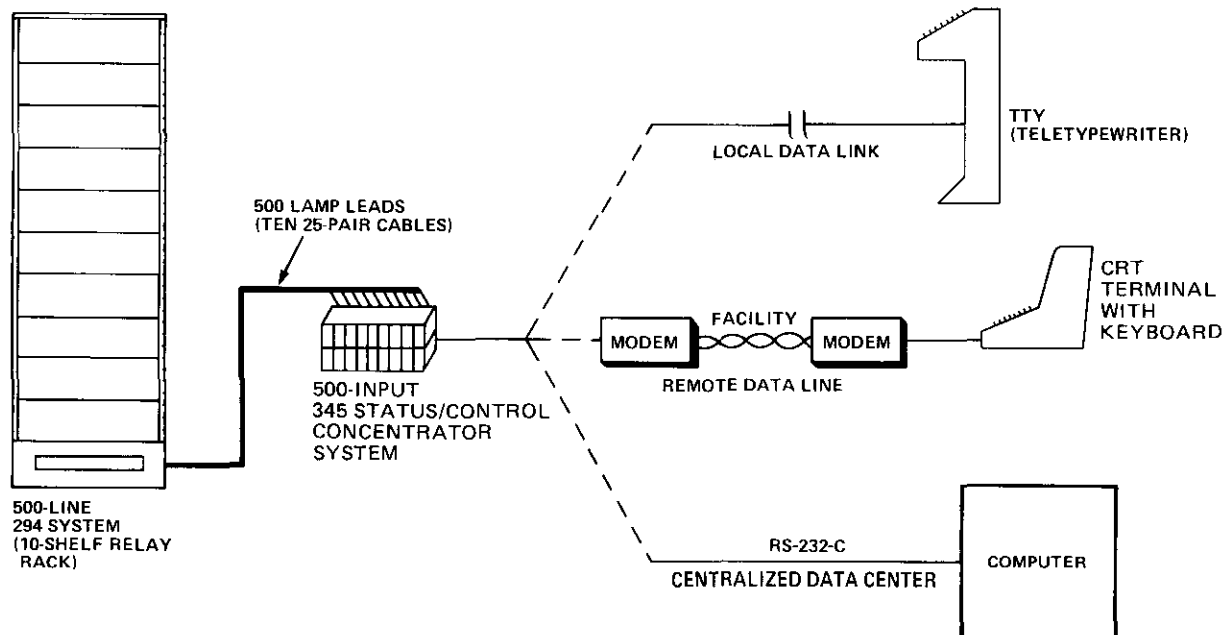

figure 10. Three typical 345 Status/Control Concentrator System applications
3.14 In applications that require answer-lamp indications at a remote location or require the answer-lamp information to be analyzed by data-processing equipment, Tellabs can supply the 345 Status/Control Concentrator (SCC) System. Figure 10 shows a typical application of this System. The SCC System can also be used to activate the 294 System if the 294 is equipped with a two-way communication port. One SCC System can provide a direct data-processing interface for up to 2000 status lamp outputs from a 294 System. These outputs are then scanned by the SCC System, converted to a serial format, and outputted on an RS-232-C data port that allows direct connection to computers, modems, terminals, or other peripheral equipment. For applications larger than 2000 lines, multiple Status/Control Concentrator Systems can be used.